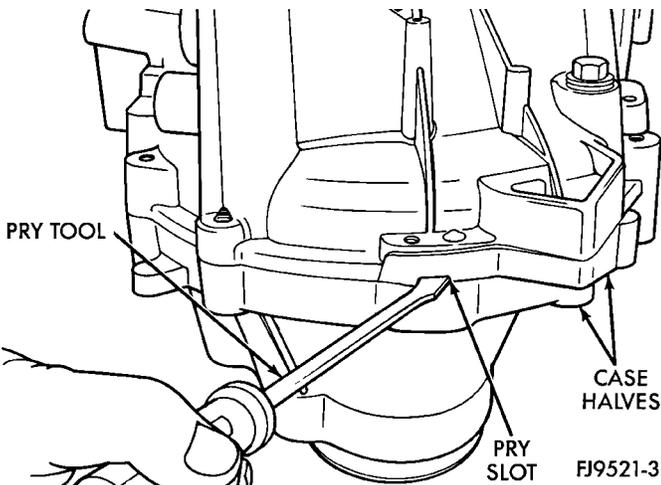

**Fig. 30 Case Bolts**
- (1) Place transaxle on bench.
- (2) Remove shift levers. Remove transaxle case half bolts (Fig. 30).